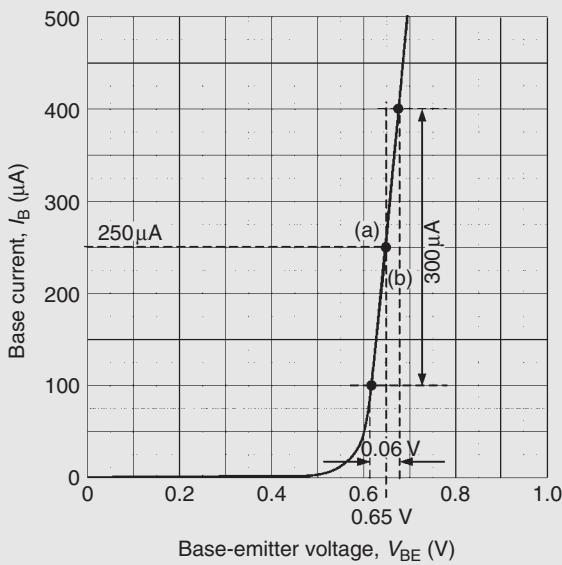

Figure 12.13
**Problem 3.** Figure 12.13 shows the input characteristic for an n-p-n silicon transistor. When the base-emitter voltage is 0.65 V, determine (a) the value of base current, (b) the static value of input resistance, and (c) the dynamic value of input resistance.
- (a) From Fig. 12.13, when  $V_{BE} = 0.65$  V, **base current,  $I_B = 250 \mu A$**  (shown as (a) on the graph)
- (c) From Fig. 12.13,  $V_{BE}$  changes by 0.06 V when  $I_B$  changes by  $300 \mu A$  (as shown by (b) on the graph). Hence,